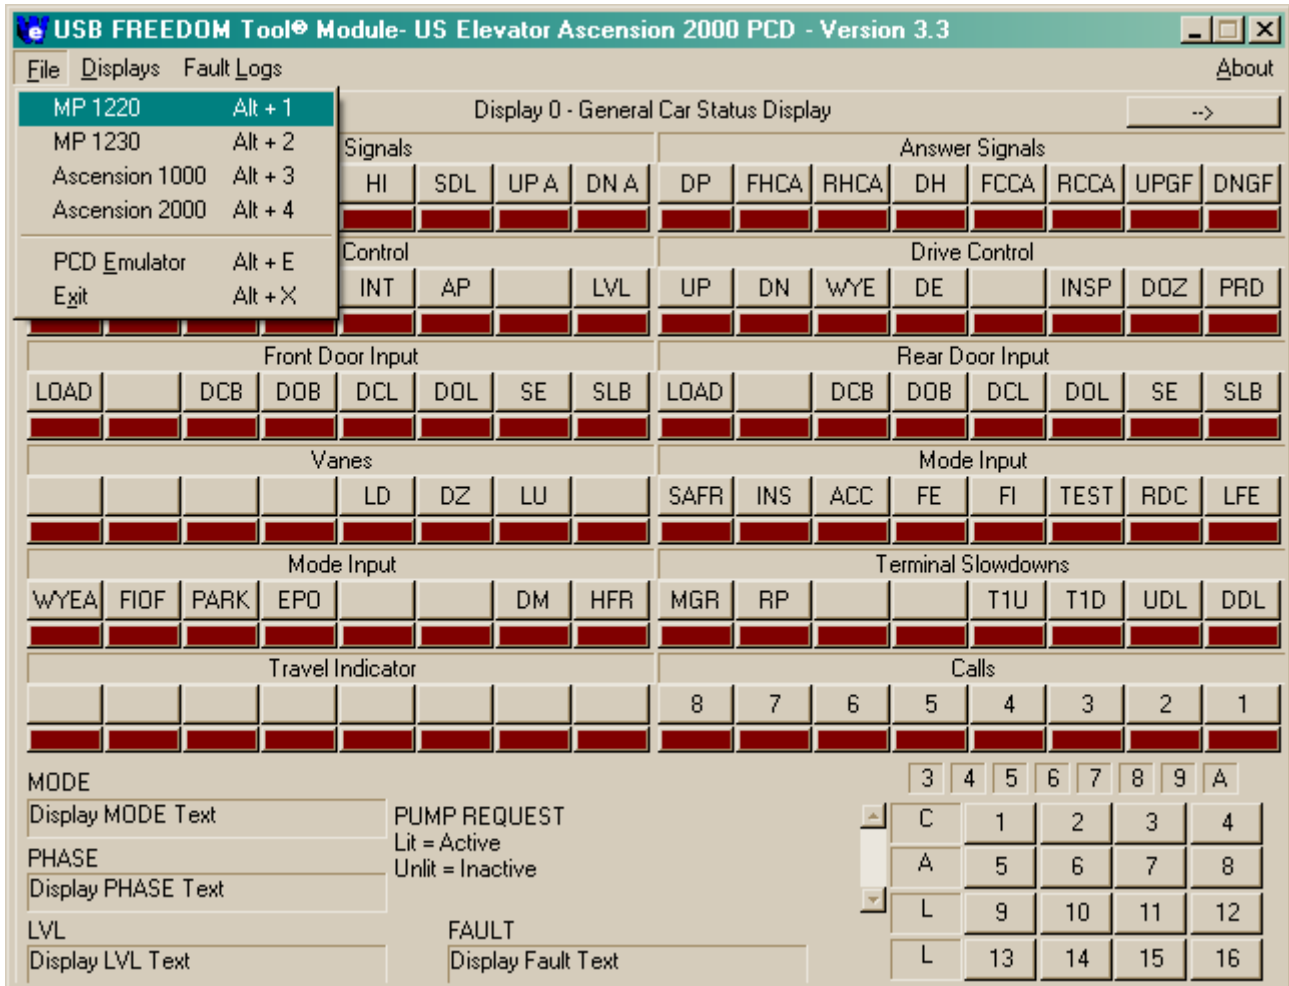

Figure 44
Selecting the File menu, refer to Figure 44, the user is presented with choices which allow the user to set up the displays to work with the four(4) elevator controllers that the FREEDOM Tool works on. Also located on the file menu is a choice labeled **Exit** and one labeled **PCD Emulator**. Selecting an Elevator Controller from this menu will adjust the I/O display labels and menus so that they are specific to the elevator system selected. The title bar of the Main Window will always indicate what controller mode the FREEDOM Tool is in. The original PCD manufactured by US Elevator was a black box with banks of LED's and several LCD Displays along with a numerical Keyboard. In order to determine what LED went